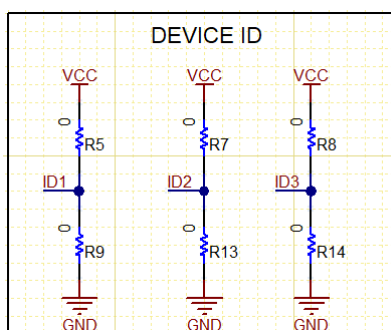

Figure 7-1. Device ID Resistors
4. The EVM uses a combination of resistors to identify the device that is populated on the board. Figure 7-1 show the resistors used for device identification. The MCU reads the values of ID1, ID2, and ID3 to determine the device that is installed on the EVM. The firmware will function slightly different depending on the device that is on the board. Each of the supported devices have unique values for ID1, ID2, and ID3 which are set by R5, R7, R8, R9, R13, and R14. After installing the new device, make sure to populate the appropriate resistors. Table 7-2 show the unique device ID for each supported device and the resistor combination to populate.